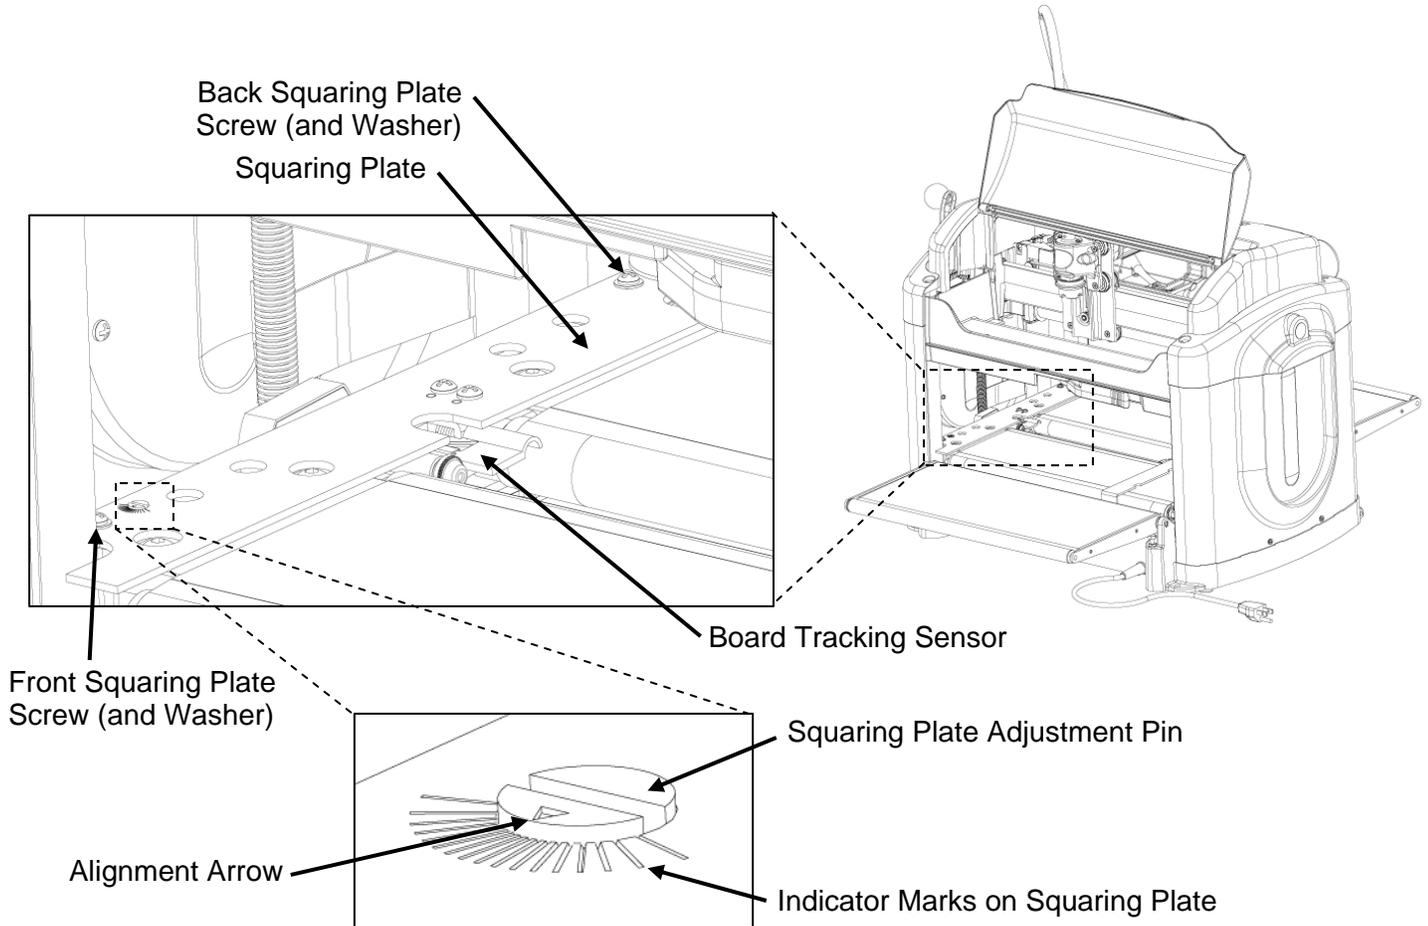

FIGURE 6: DETAILED VIEW OF THE SQUARING PLATE ADJUSTMENT
7. **Loosen the squaring plate.** Crank the head of the machine up to within one inch from the top of the four vertical posts. Gently remove the jig. With a short Philips screwdriver, loosen, but do not remove the front squaring plate screw (Figure 6). This will allow the squaring plate to be rotated.